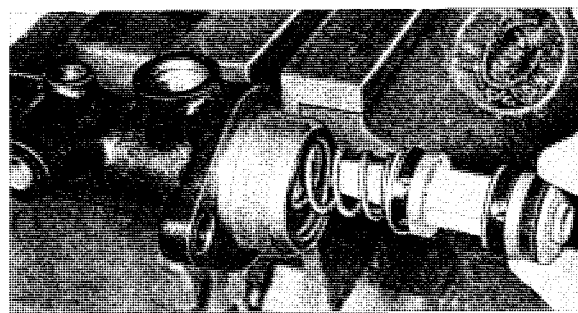

**Fig. 5-49. Secondary piston**
1. Install the brass washer (5, Fig. 5-49) and the piston seal (4) on the secondary piston (6). Check to make sure that the seals are turned correctly, see Fig. 5-49.
1. Place the sealing ring (6, Fig. 5-49) on the master cylinder. Position the cylinder and then the washers